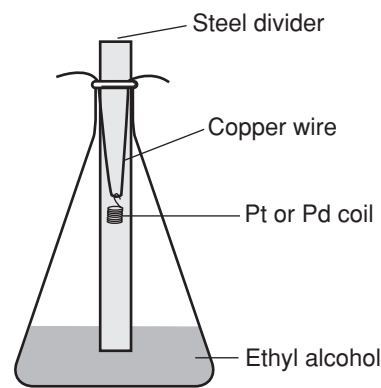

Figure 2.
1. Pour 50 to 75 mL of ethanol into the Erlenmeyer flask. Set up the flask so that the coil will be about 4 cm above the surface of the ethyl alcohol (see Figure 2). Heat the flask to boiling to boiling on a hot plate. *Caution:* Do not heat the flask with the Bunsen burner!